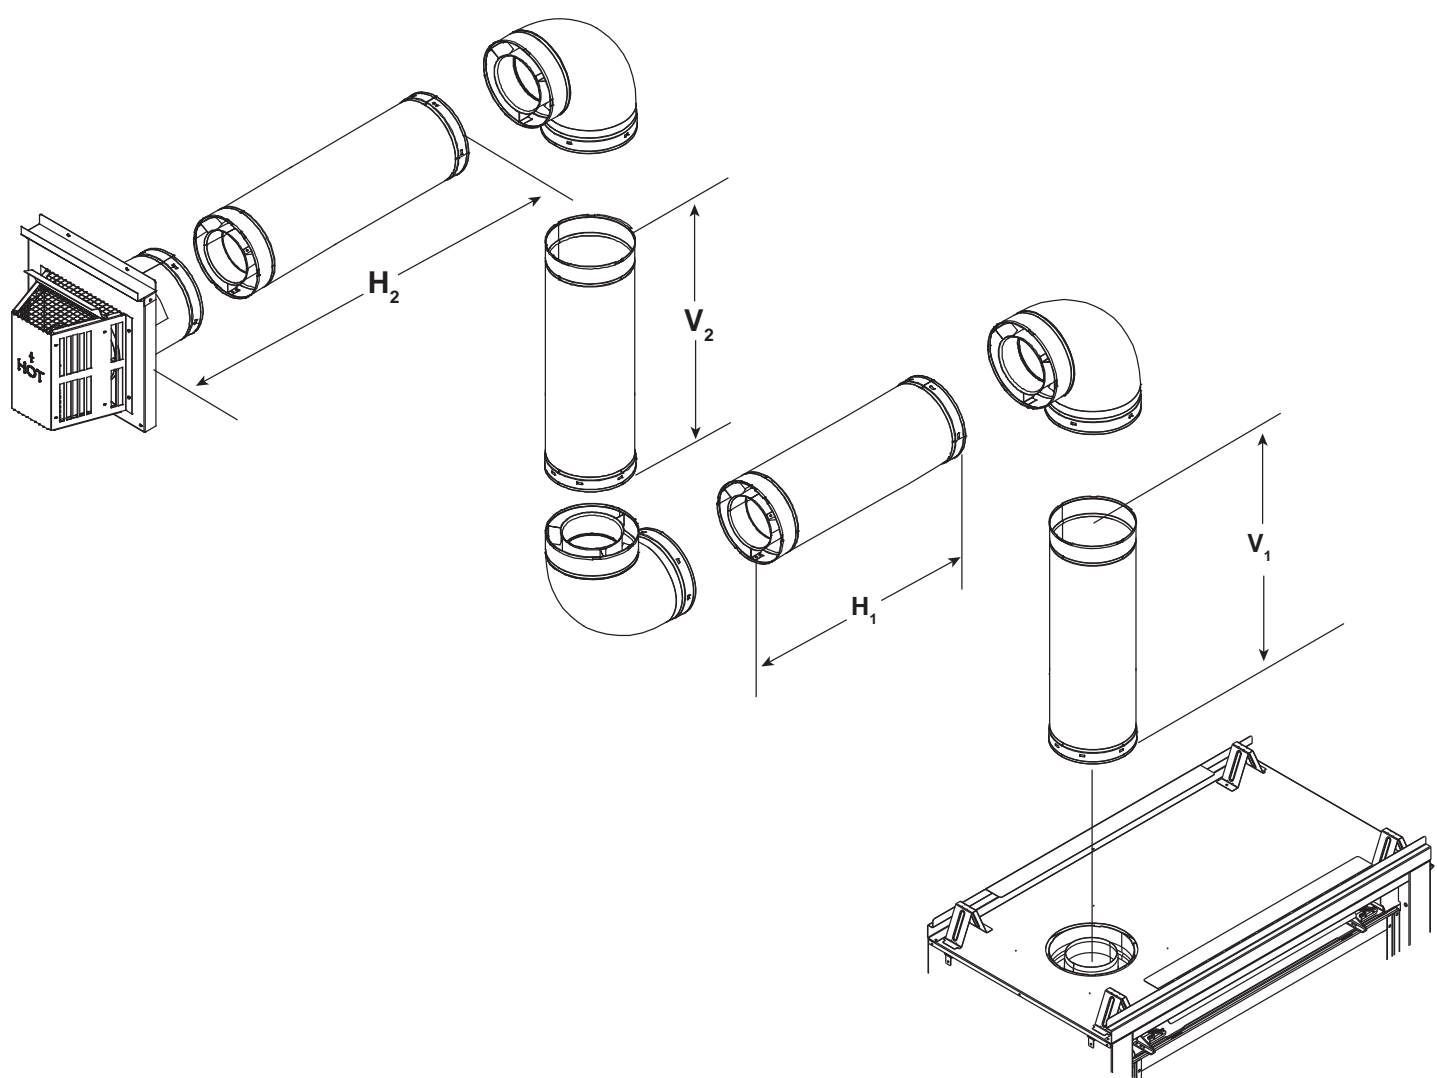

Figure 7.6
- A maximum of three 90° elbows (or six 45° elbows) may be used in any vent configuration. Some elbows may be installed horizontally. See Figure 7.6.